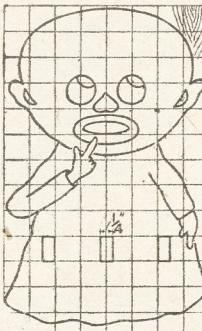

Fig. 2—The figure
Back at the drum now cut two pieces of strong tin as (A) Fig. 2 (clock spring with the temper taken out of one end would be the best). These must be so fixed that they slide and press against the tin bands, and they may have to be fitted differently on different cranes. From their base two cables are led to a
The figure to be cut from a sound piece of wood $\frac{1}{4}$ in. thick, is indicated in Fig. 2. First cut the wood to size $6\frac{1}{2}$ ins. long by 4 ins. wide, and carefully divide one face into $\frac{1}{2}$ in. squares, as indicated in Fig. 2.
It is now a simple matter to draw the figure on the wood from the outline given. Take marking off and cutting out the three mortise slots, $\frac{1}{2}$ in. by $\frac{1}{4}$ in. given in position in Fig. 2. Only the outline of the figure is cut out, since the hands, eyes, nose, mouth, and ears are treated with enamel paint.
First cut the three pieces of wood $2\frac{1}{2}$ ins. long by 2 ins. wide, and carefully cut the tenons on the centre of each end, making them $\frac{1}{2}$ in. wide and a good fit in the mortise slots already cut in the figure indicated in Fig. 2, and the upright Fig. 4. Having made the items see they are smooth and nicely finished, and then fix together with glue.